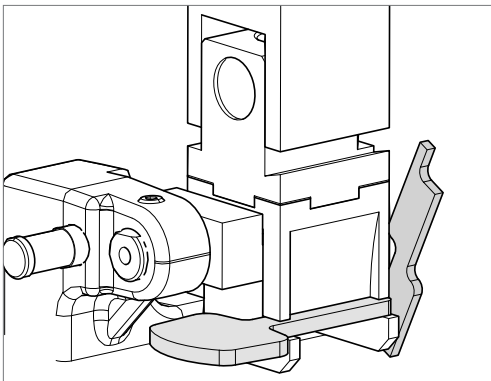

Fig. 41
- the reference for the key relates to the tip, up against the tracer point (original key) and up against the cutter (key blank) or use the stop bar up against the external left-hand side of the clamp (Fig. 41).